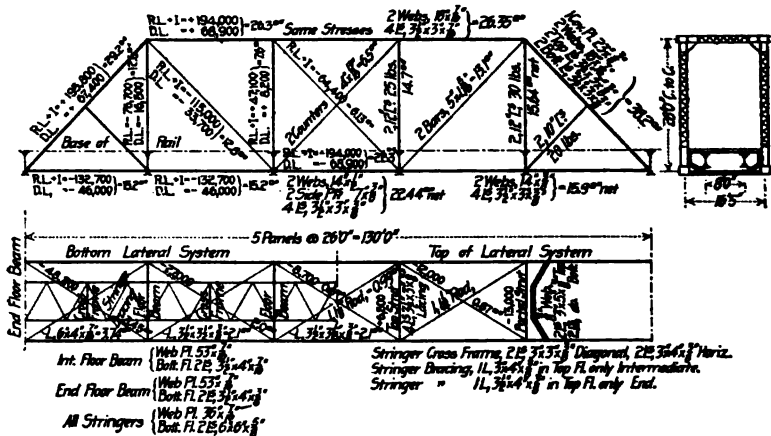

FIG. 1.
1. Fig. 1 shows the stress sheet of a 130-ft. span; what will be the approximate weight of metal? Indicate method used for obtaining result.
1. In braced portal, Fig. 1, find reactions and strains in rods.